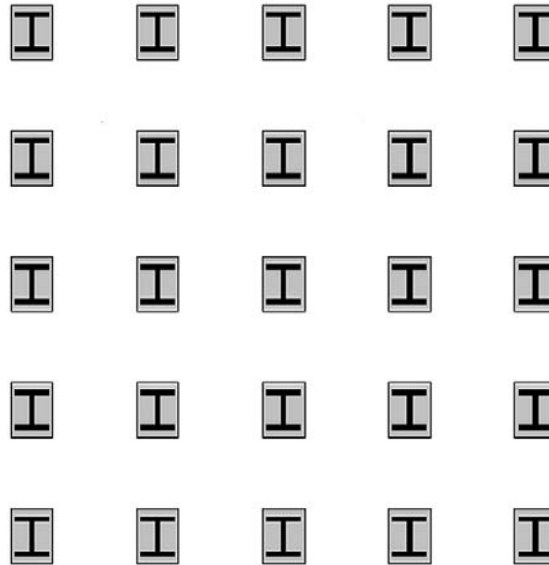
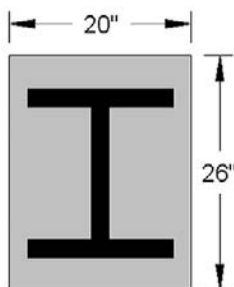

FIGURE 8.12
FIGURE 8.13
you can also do levels, which we do not address here. An example, as shown in Figure 8.12, may be columns of a warehouse. If they are spread out evenly, then this is the perfect tool for this. You simply draw one I-beam column, make a block out of it, and array it up and across the appropriate area.
The first thing to do is to draw a convincing-looking I-beam. Because we need actual distances, you cannot just randomly draw any object; use known sizing this time around. With one of the columns in Figure 8.12 as a model, create a 20" wide by 26" tall rectangle. Inside of it, put an I-beam drawn with basic linework and a solid hatch fill, and shade the background a light gray (Figure 8.13). Finally, make a block out of it. That sets up the column for an array.
Step 11. Press Enter to accept the array as is. If you did everything right, the final result is what you would expect and is similar to what is shown earlier in Figure 8.12.